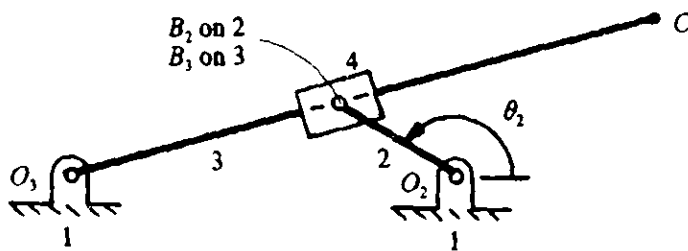

Figure P.2 (not to scale)
2. **Figure P.2** shows an inverted slider crank mechanism.
- (4) (a) Specify the maximum magnitude of rotational speed of link 3 in the clockwise direction during a complete rotation of link 2, and the corresponding value(s) of θ_2 when this takes place.
- (12) (b) Using complex number methods, when